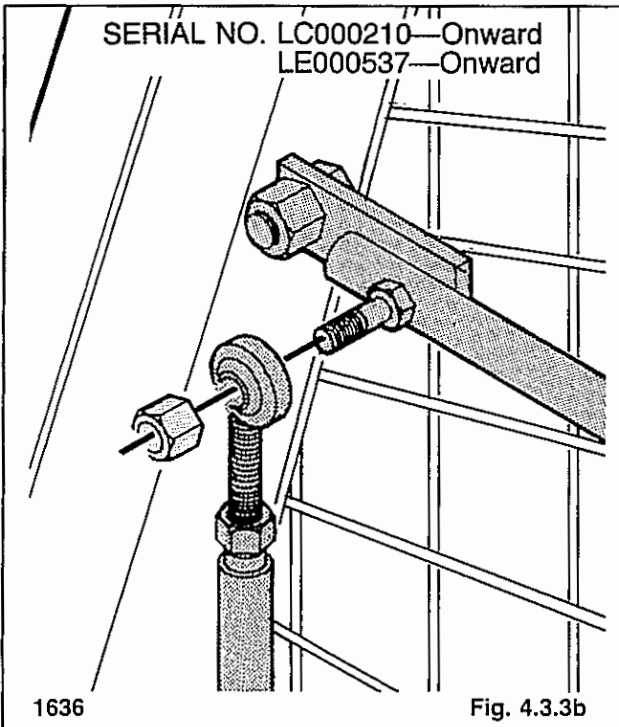

Fig. 4.3.3b
- Disconnect the seat bar vertical linkage from the seat bar (fig. 4.3.3b).